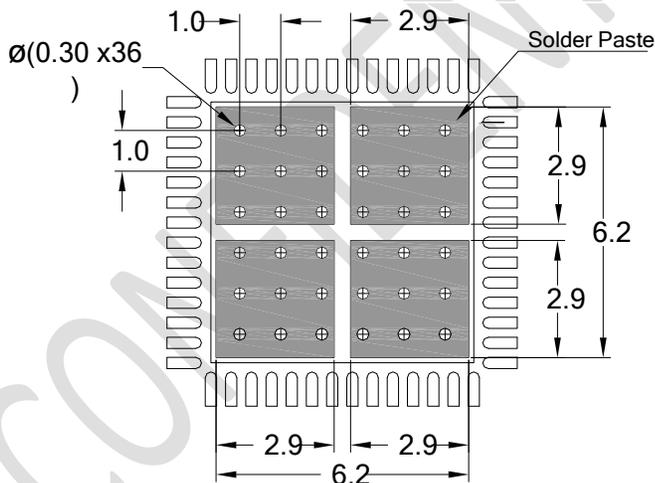

Figure 24: Top Solder Printing Mask (CS)
- ◆ If copper plating does not plug the vias, apply stencil print solder paste onto the printed circuit side. This provides sufficient solder paste, filling those vias to avoid the above mentioned voids. Figure 24 and Figure 25 show the associated, solder printing masks (CS & PS). The solder mask openings are lined-up in respect to the 6 x 6 thermal via array. Since large solder printing mask openings may result in poor release, the opening should be subdivided as shown in these figures.